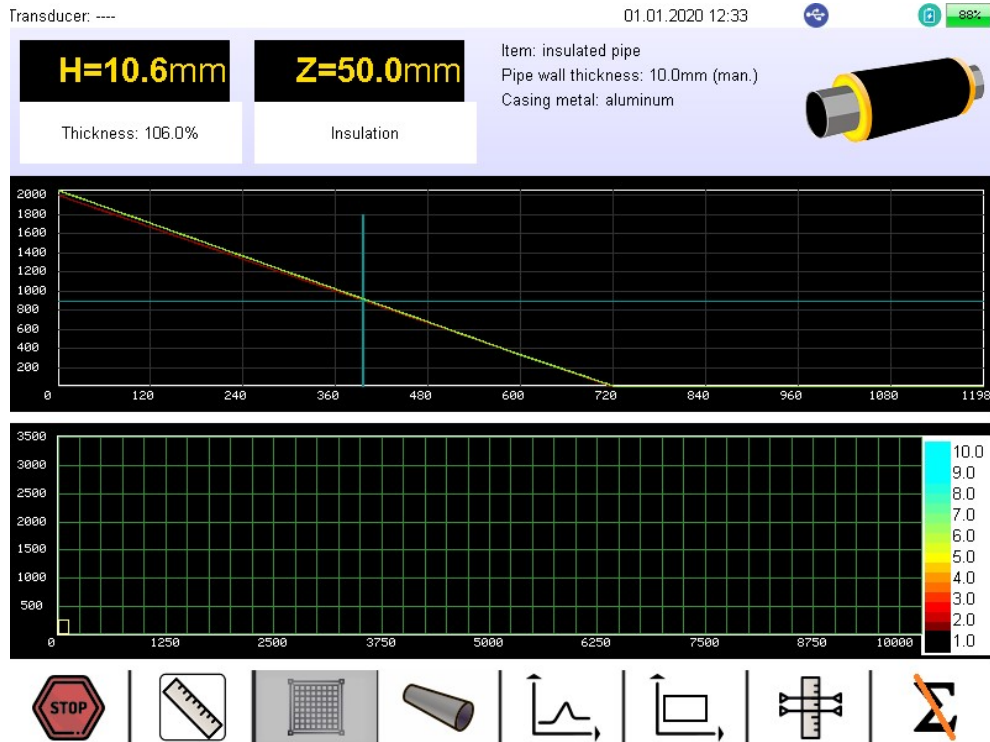

Figure 50. Main window of the Device in scan mode
- Start scanning through the  menu ("Scanning Start/Stop/Continuation Menu). In this case, the main window of the Device will appear as shown in Figure 50.